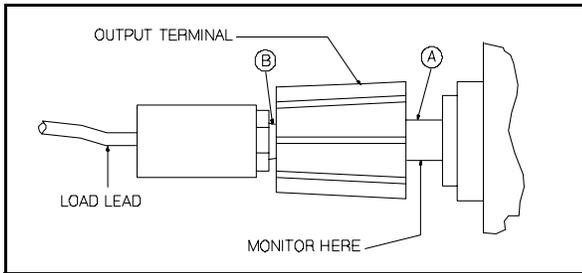

Figure A-4. Front Panel Terminal Connections
When performance measurements are made at the front terminals (Figure A-4) the load should be plugged into the front of the terminals at (B) while the monitoring device is connected to a small lead or bus wire inserted through the hole in the neck of the binding post at (A). Connecting the measuring device at (B) would result in a measurement that includes the resistance of the leads between the output terminals and the point of connection.